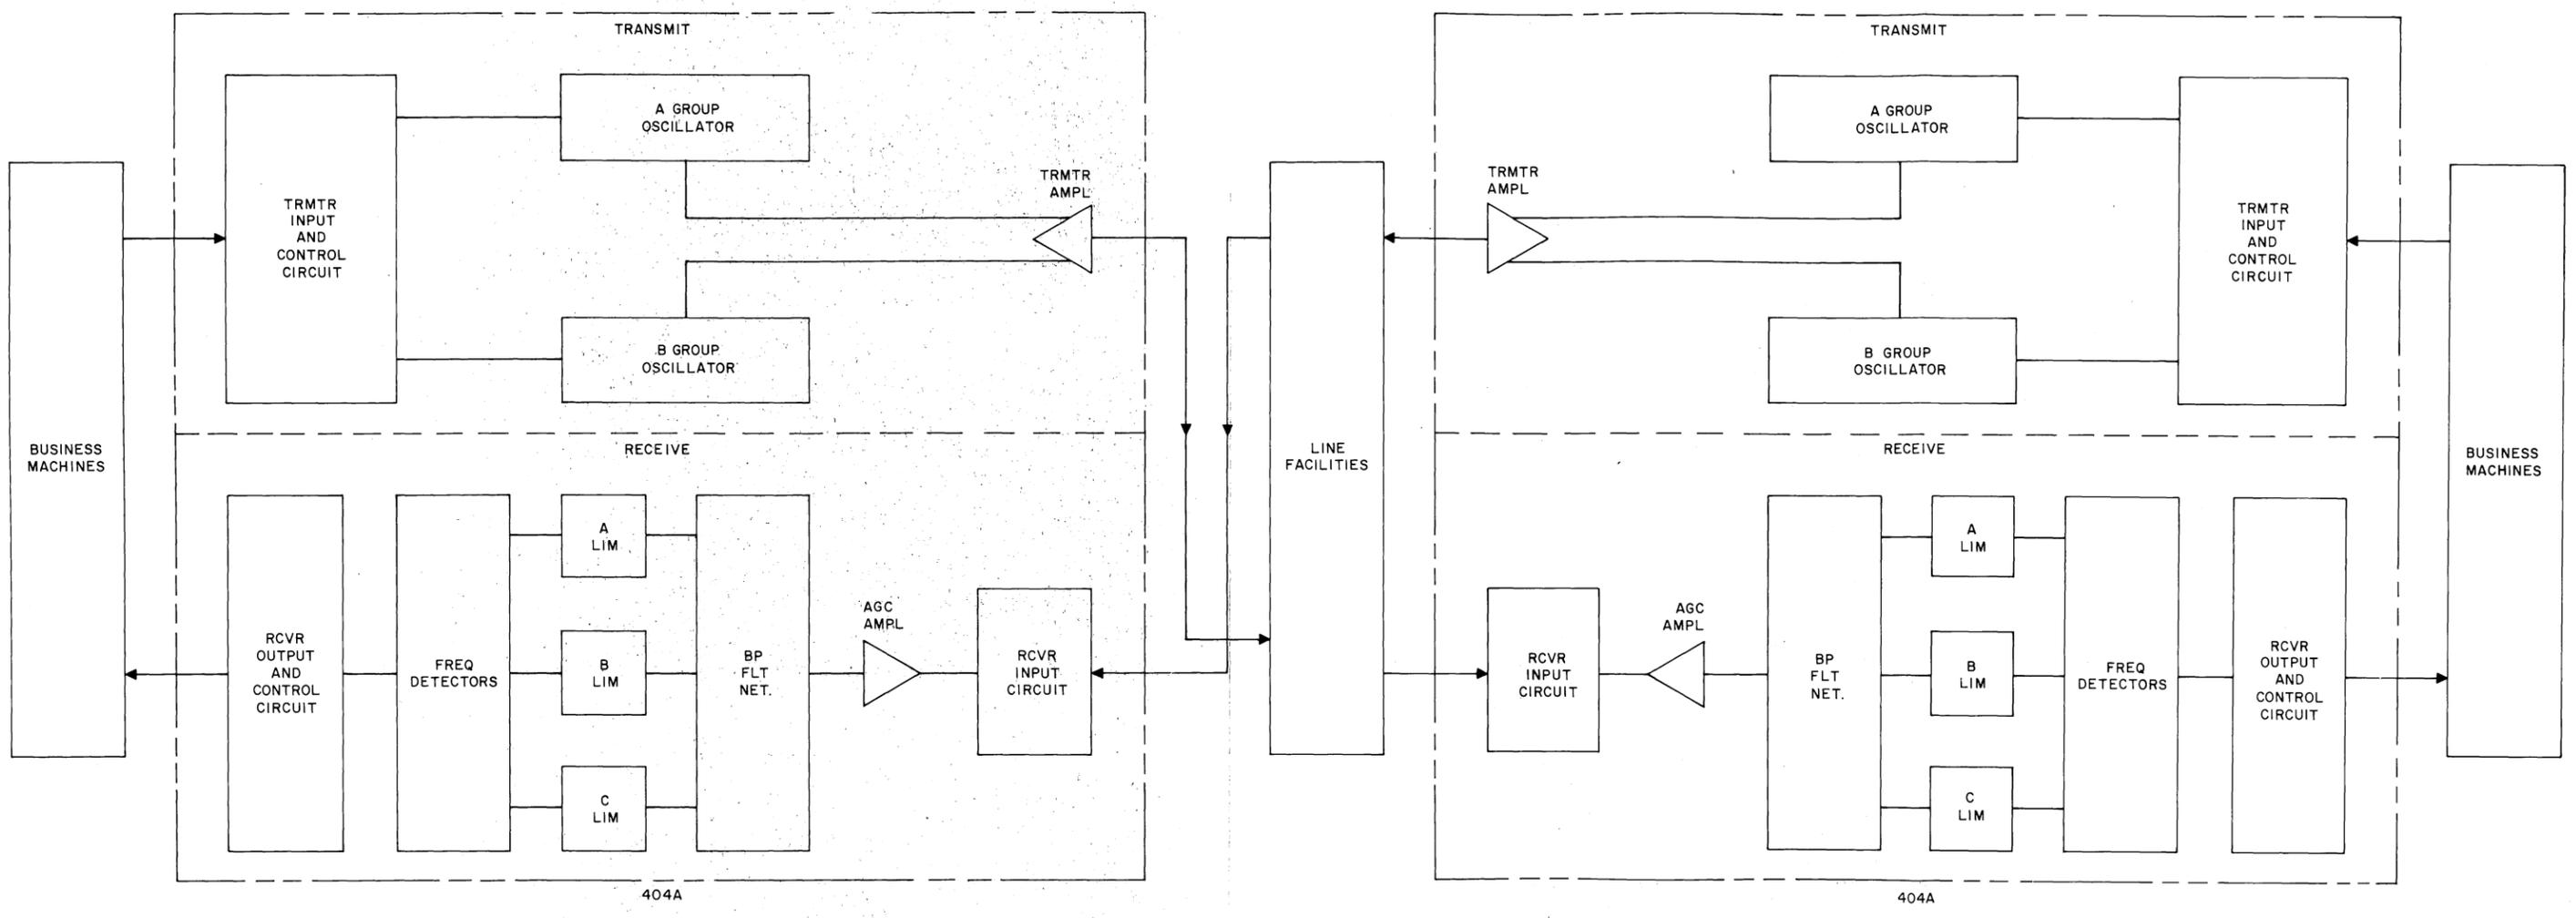

Fig. 3—Data Set 404A, Block Diagram
3.01 Refer to Fig. 3 for a block diagram of Data Set 404A.